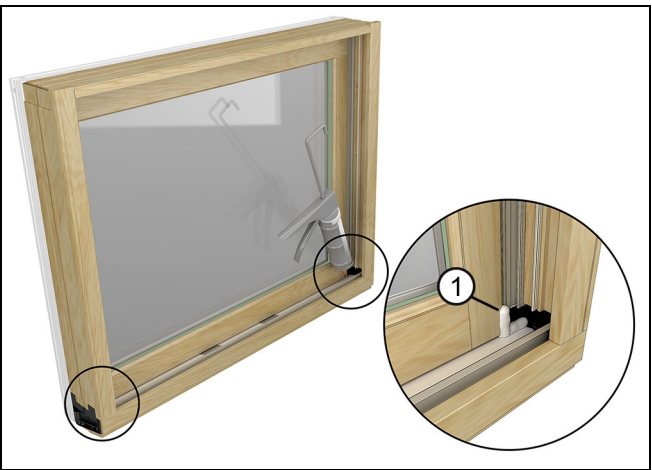

Figure 55
2. Apply a 3/8" (10) bead of sealant between the sash and corner key continued around to the corner key and sill joint as shown in Figure 55. Tool the sealant into the joinery areas.